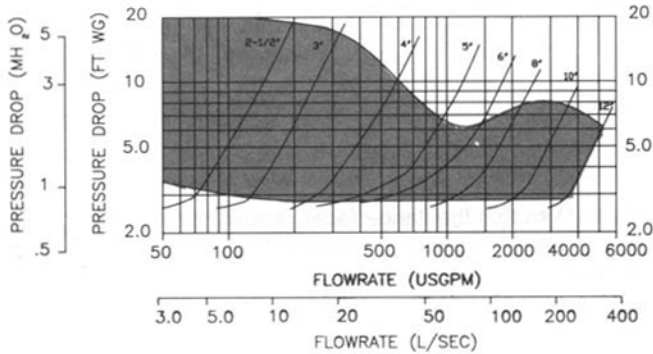

Fig.5
6.3.4 On the Flo-trex performance curve (Fig. 5) locate the differential pressure obtained in step 6.3.2 and project line horizontally across to intercept with Valve Performance Curve. Drop a line vertically down to read the flow rate at the bottom of the chart.
From the Flo-trex performance curve (Fig. 5), a 4" valve with 5.4ft pressure drop (1.65m) represents a flow of 400Usgpm (25.2 l/s).